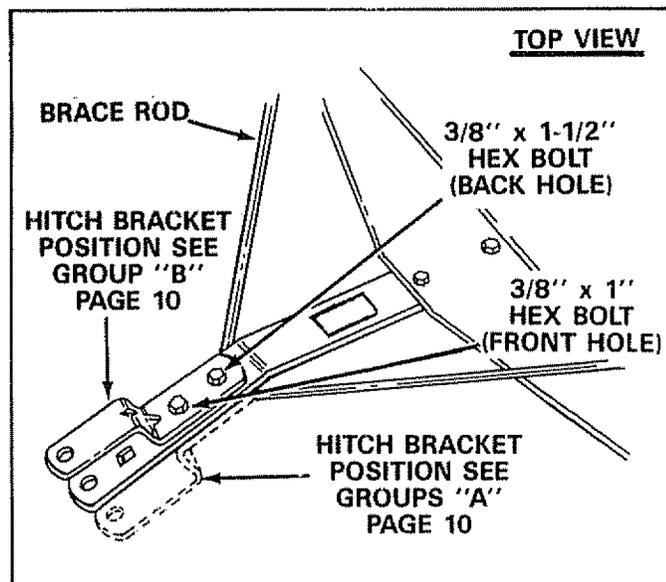

FIGURE 4
Before assembling the hitch bracket or hitch pin bracket to the hitch bar refer to figures 4, 7 and page 10 to determine which position is required for your Sears riding mower or tractor.
3. Assemble the hitch bracket to hitch bar with one 3/8" x 1" hex bolt (in the front hole) and 3/8" hex lock nut. **Do not tighten at this time.** See figure 4.
4. Assemble the hitch bracket with one 3/8" x 1-1/2" hex bolt (in the back hole), large flat washer and 3/8" hex lock nut. (**Do not tighten at this time.**) See figures 4 and 5.